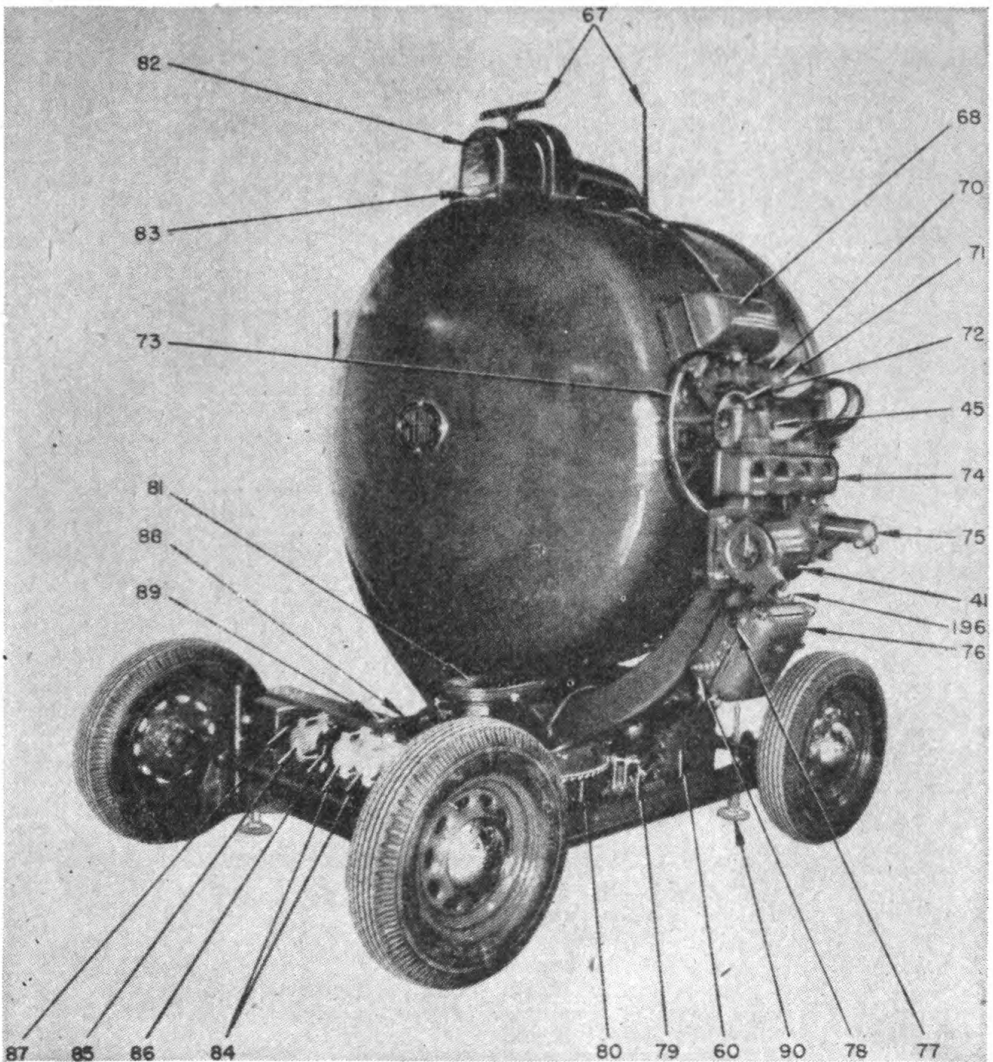

FIGURE 3.—Sperry M1941 antiaircraft searchlight (rear quarter view).
41. Elevation control motor..	See figure 3.